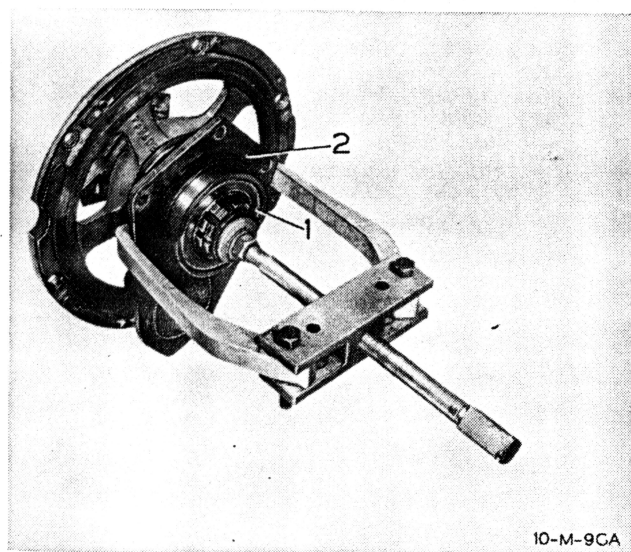

Fig. 138
2. Using a gear puller, remove mainshaft front bearing and bearing cap. Fig. 138.
#### QUILL SHAFT REASSEMBLY (See Figs. 138, 139, 140, 141)